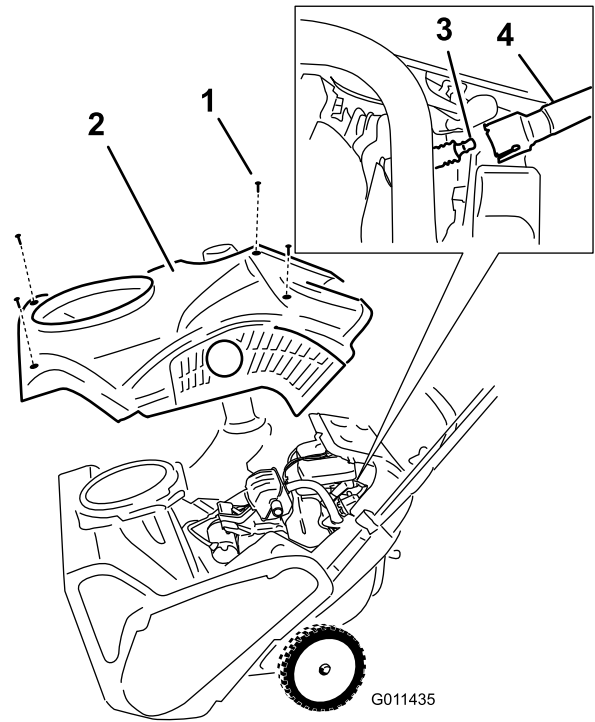

Figure 25
4. Remove the 4 screws that secure the shroud (Figure 25).
6. Remove the shroud (Figure 25).